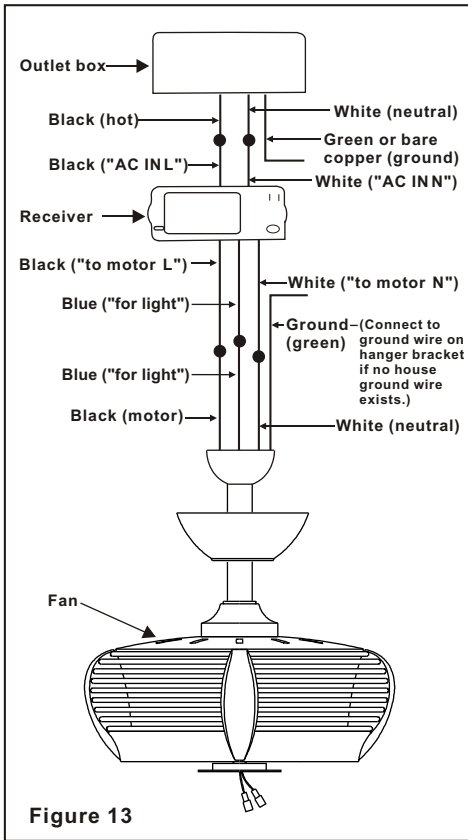

Figure 13
Blue wire from the fan to the Blue wire marked "For Light" from the receiver. Secure wire connections with the plastic wire nuts provided. (Fig. 13 and 14)
Step 3. Receiver to House Supply Wires Electrical Connections: Connect the WHITE wire (Neutral) from the outlet box to the WHITE wire marked "AC in N" from the receiver. Connect the BLACK wire (Hot) from the outlet box to the BLACK wire marked "AC in L" from the receiver. Secure all wire connections with the plastic wire nuts provided. (Fig. 13 and 14)
Step 4. If your outlet box has a GROUND wire (Green or Bare Copper) connect this wire to the Hanger Ball and Hanger Bracket Ground wires. If your outlet box does not have a Ground Wire, then connect the Hanger Ball and Hanger Bracket Ground Wires together. Secure wire connection with the plastic wire nut provided. (Fig. 13 & 14)